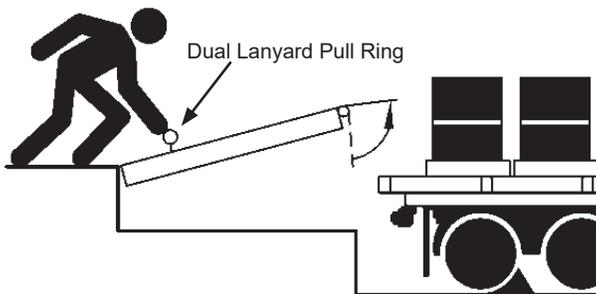

Figure 19
- a. Raise the platform by pressing and holding the RAISE button or lightly pulling and holding dual-lanyard pull ring (see Figure 19).